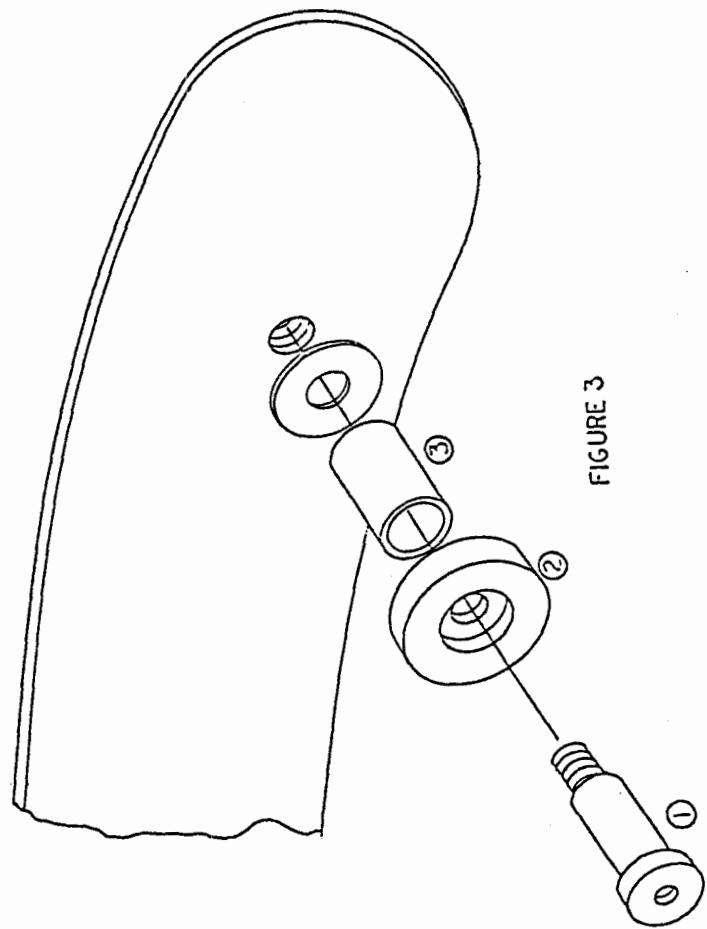

FIGURE 3
Carefully remove the sunroof from the carton marked "sunroof" and lay it on carpet or similar surface with the acrylic side down. Locate the four rollers, spacers and axle bolts in the carton marked "arm kit" (see figure 3). Push the roller (2) onto the axle bolt (1) so that the head of the bolt fits into the recess in the roller. Slide the metal spacer (3) onto the bolt followed by a 3/8" flat washer until only the threads are exposed. Locate the two 3/8" threaded holes on each end of the sunroof (one is toward the rear, and the other is in the lower center) and screw the axle bolts into the sunroof end plates. Be sure to insert the bolts carefully to guard against "cross threading", and tighten with the 1/4" allen wrench provided.
Locate the pivot arm (see figure 3, item 1) in the carton marked "arm kit". Position a 1/2" black flat washer (3) on one of the 1/2" shoulder bolts (2) and pass it through the clearance hole on the top portion of the pivot arm. Position a 3/8" black flat washer (4) so that it is between the 1/2" shoulder of the bolt and the end plate, and insert the bolt into the 3/8" threaded hole in the rear of the sunroof end plate. Tighten securely with the 1/4" allen wrench provided.